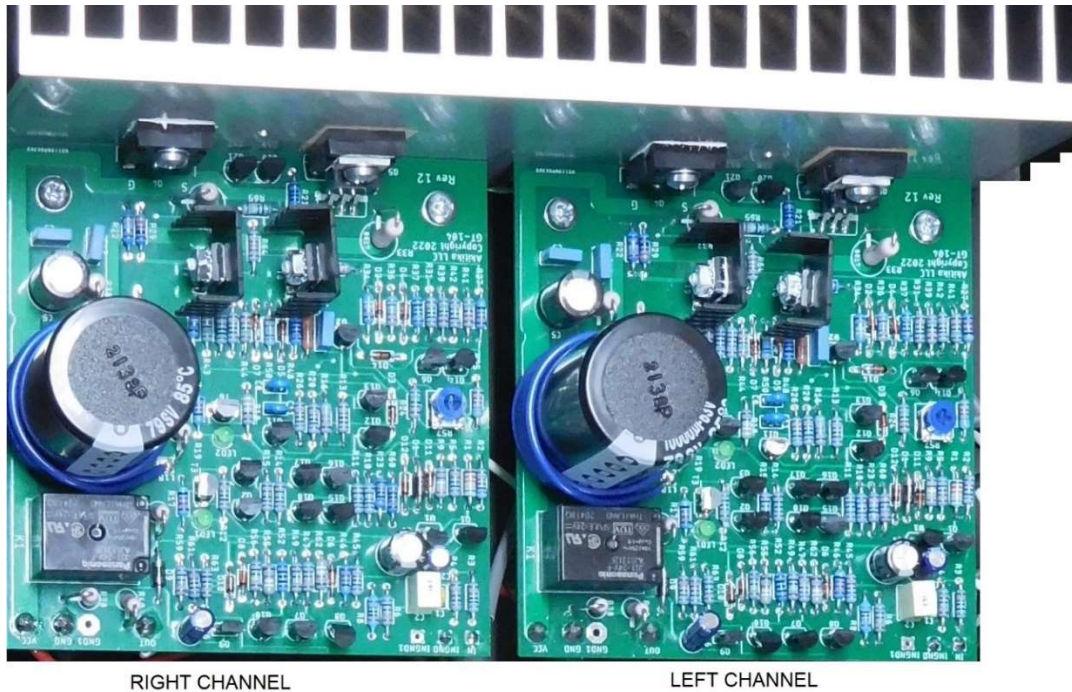

Figure 30-Right and Left Channel Designations
Repeat the method as outlined above to attach the second amplifier circuit board and output devices to the large heatsink, beside the first amplifier. Figure 30 shows you how the result will look.
1. For the module designated as LEFT (see Figure 30), cut a 9” overall length of Red/Black 18 AWG zip cord.
1. For the module designated as RIGHT (see Figure 30), cut an 11” overall length of Red/Black 18 AWG zip cord.